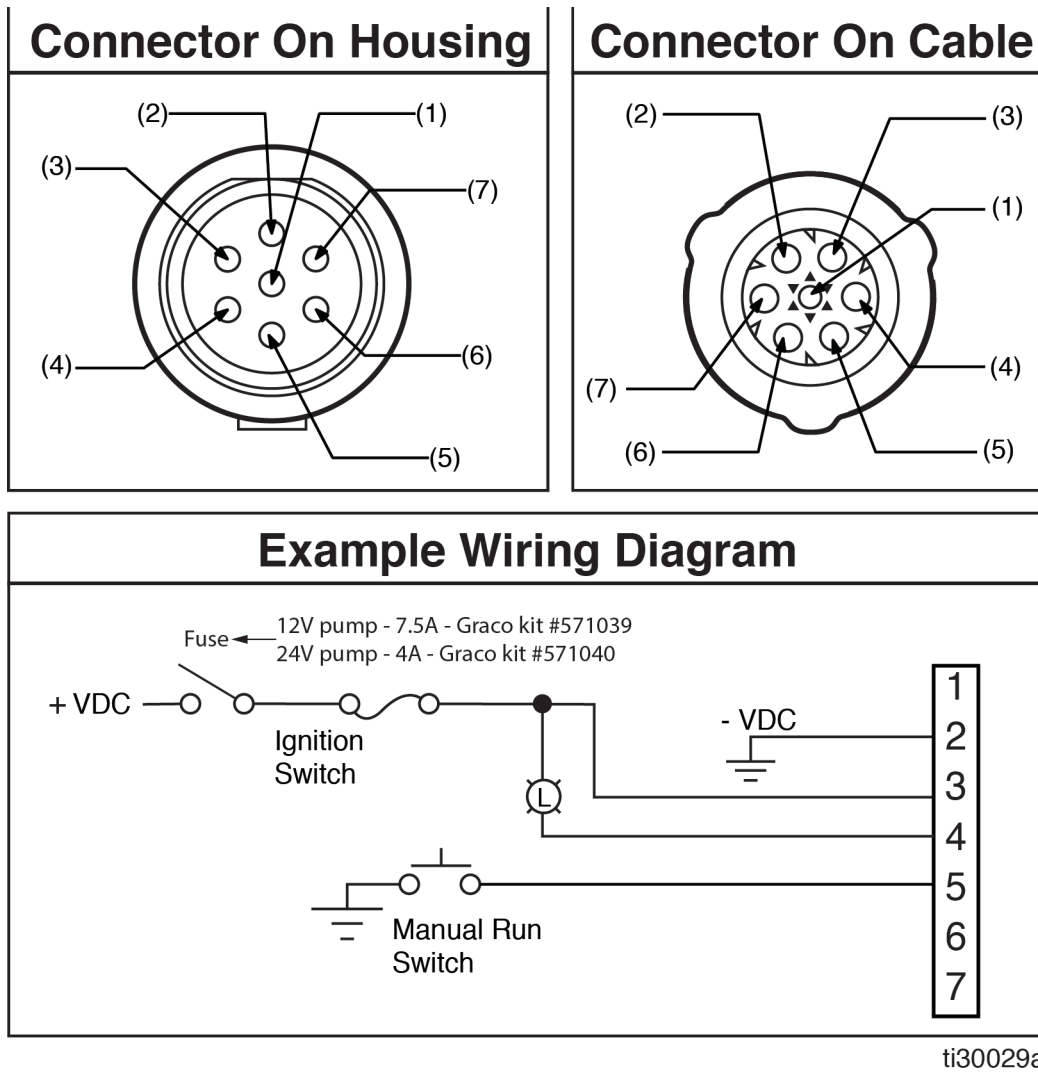

FIG. 5
- See Pin Layout shown in FIG. 5 for proper location in the connector.
Pin and Related Wire Color (FIG. 5, page 15)